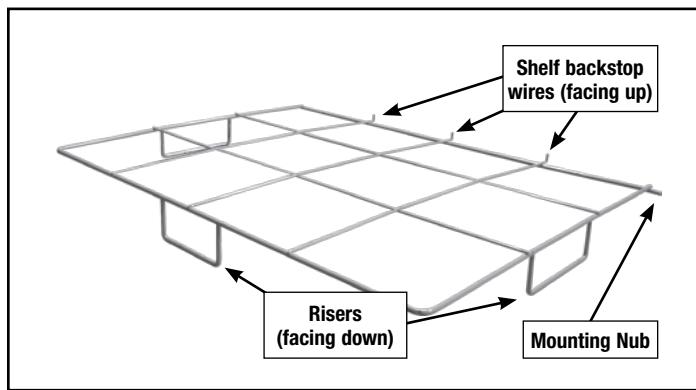

Figure 5. Install bottom shelf with risers facing down.
The bottom and standard Rack-It shelves include two mounting nubs that extend out from the rear of each shelf (Figures 5 & 6, page 5). Each shelf also has backstop wires that must extend upward to keep the material from slipping off the shelf when it is in the open position.
1. Holding the bottom shelf (Figure 5) at an angle with the risers extending downward, slip the mounting nub into the slot on the side of the upright with the welded locking strip (Figure 7). Slip the mounting nub on the other side into its corresponding slot.